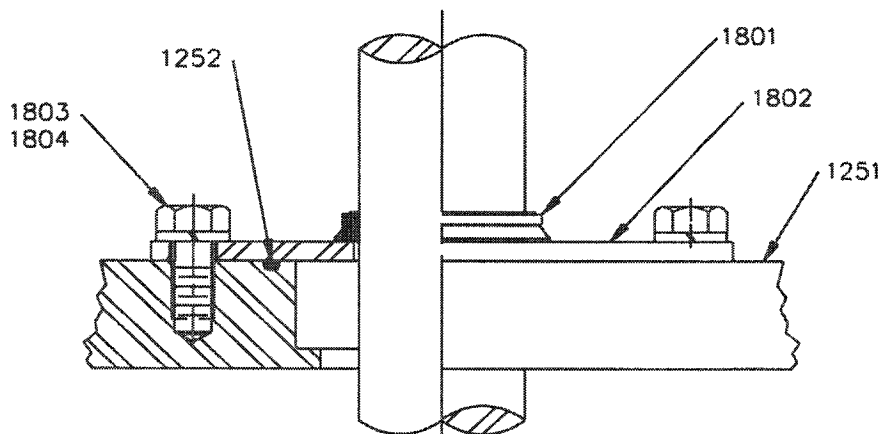

Figure 5: Lip Seal
9. For GTL units (*Refer to Figure 5*): Install o-ring [1252] into the groove in the mounting flange [1251]. Install seal plate [1802] with bolts and lockwashers [1803, 1804]. Install nitrile V-ring [1801] over shaft end and onto seal plate. *Do not tighten bolts at this time.*
18. Model GTL: Center the seal plate [1802] on the shaft. Torque bolts [1803] to the value shown in *Table 6*. Refer to *Figure 5, page 12*. Slide V-ring [1801] down the shaft to contact seal plate.